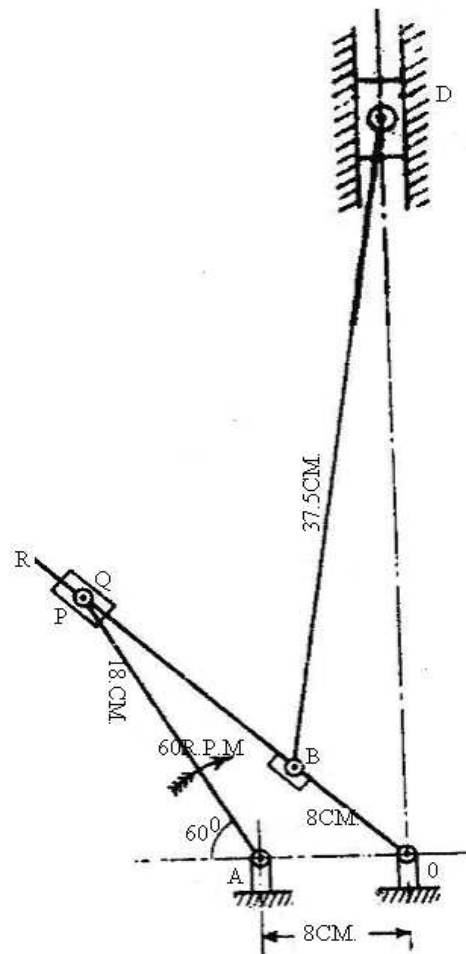

Figure 6:
8. The mechanism of a vertical slotting machine is shown in figure6. The crank AP rotates at 60 r.p.m and the block 'O' slides along the link OR giving non-uniform motion about O. The slider 'D' is connected to OR at B by link BD and moves vertically in guides. Determine